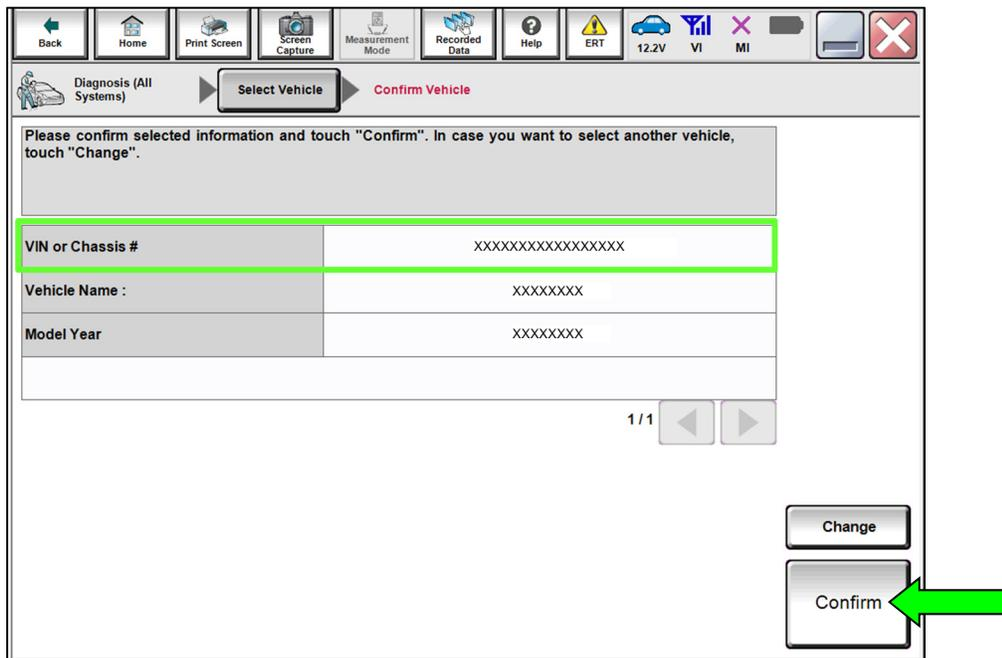

Figure 2
9. Verify the correct **VIN or Chassis #** is populated (Figure 2).